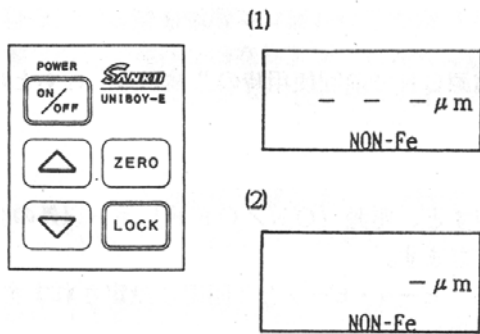

Fig.3
When display (1) shifts to display (2) as shown in Fig.3, the buzzer emits a beeping sound.